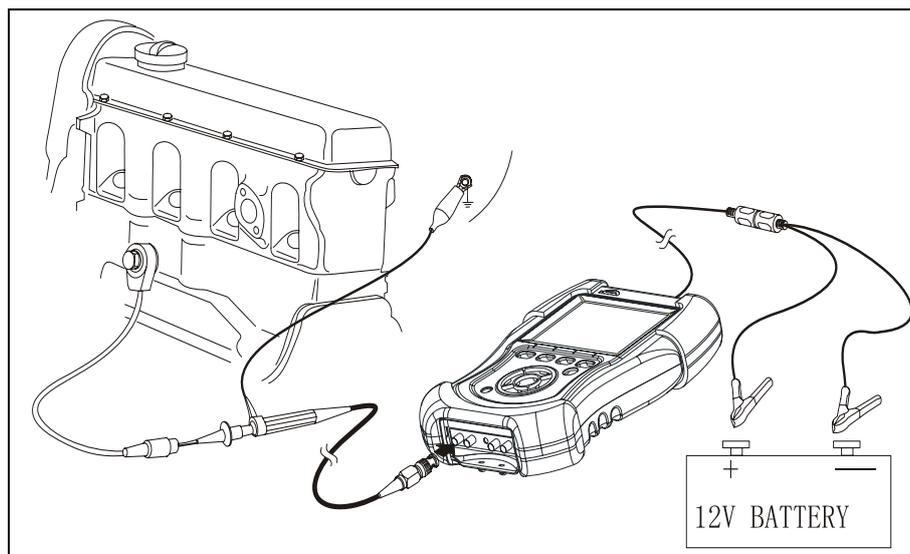

Fig. 5-1
When connecting KT600 to extension line for power supply, choose battery or cigar igniter as power supply according to the battery position of vehicle mode tested. All connecting diagrams in this users manual take power supply by battery as example. If choosing cigar igniter connector, confirm that cigar igniter has 12V battery voltage first. Connect test probe to Channel 1 (CH1 port), and then connect the small alligator clip on test probe to the negative of battery or grounding, connect test probe to the signal line of knock sensor. Connecting diagram of multi-point fuel injection is shown as Fig.5-1.
1. Connect equipment according to Fig.5-1, switch on power supply switch of KT600;